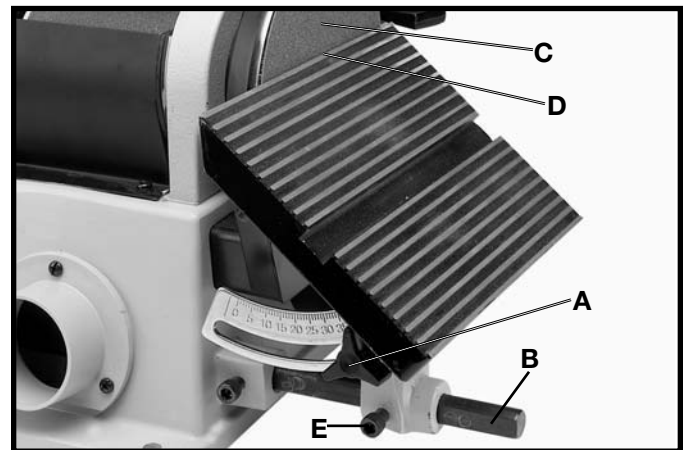

Fig. 30
2. The table can be tilted up to 45 degrees to the right by loosening the table lock knob (A) Fig. 30, tilting the table to the desired angle, and tightening table lock knob (A).
3. **⚠ WARNING: AFTER TILTING, THE TABLE ASSEMBLY MUST BE REPOSITIONED ON THE SUPPORT ROD (B) FIG. 30, TO PROVIDE A MAXIMUM OF 1/16 INCH DISTANCE BETWEEN THE SANDING DISC (C), AND THE EDGE (D) OF THE TABLE, TO AVOID TRAPPING THE WORK OR FINGERS BETWEEN THE DISC AND TABLE. TO REPOSITION THE TABLE ASSEMBLY, LOOSEN SCREW (E), MOVE TABLE ASSEMBLY ON ROD (B), AND TIGHTEN SCREW (E).**